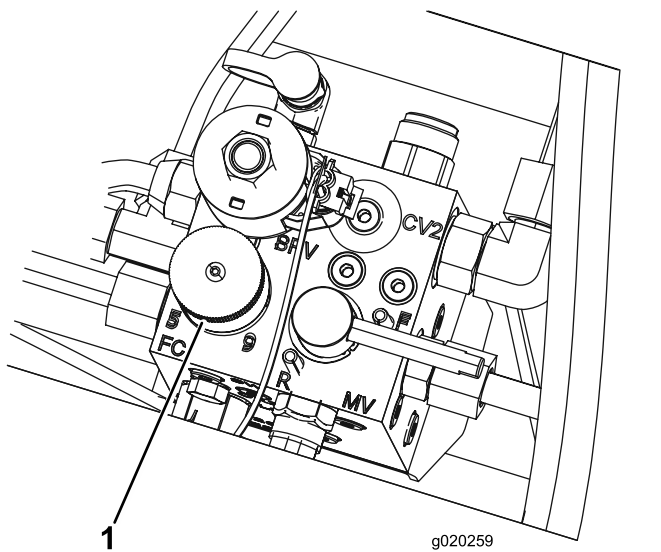

Figure 43
5. Rotate the knob (Figure 43) of the mower manifold until the indicator arrow is in line with the reel-speed number that you determined in step 3.